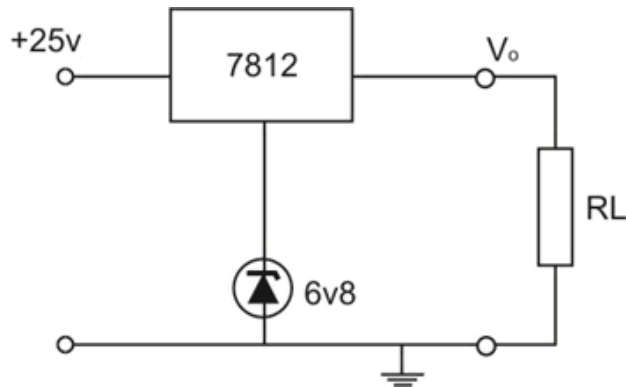

Figure 15.
2. Determine the output voltage for the IC regulator circuit shown in Figure 15.